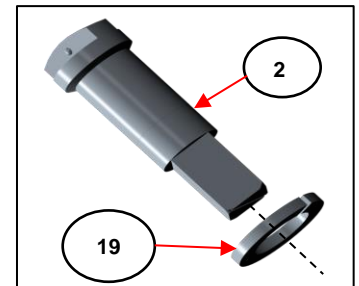

Figure 4-23
4.4.4 Install the thrust washer (item 19) onto the valve stem (item 2). (Figure 4-23)